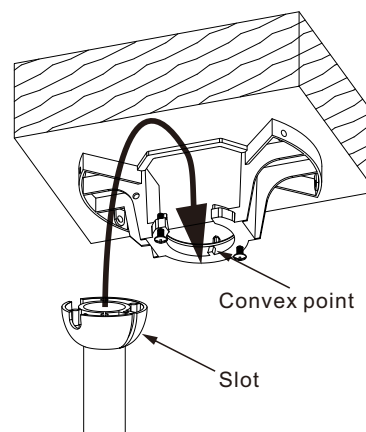

Figure 15
Step 9. Place the downrod ball into the hanger bracket socket. (Fig. 15) And rotate fan and downrod assembly until tab on bracket lines up with slot on ball.
Step 1. (Fig. 15) Insert the receiver into the hanger bracket with the flat side of the receiver facing the ceiling.